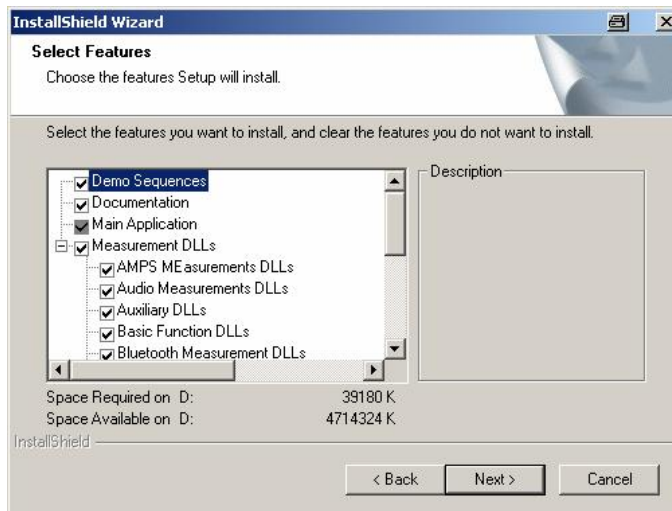

Fig. 1\_1: To include the new test items and sequences, checkbox Demo Sequences must be active.
- Make sure that the checkbox *Demo Sequences* is active, see Fig. 1\_1: